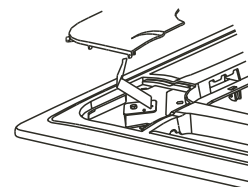

fig.4-14
- Wrench off the bolts, loosen the rope of the installation covers, and remove them. (Refer to Fig.4-14)
- 5) Regulate the panel in the direction of the arrow in Fig 4-14 slightly to fit the panel's center to the center of the ceiling's opening. Guarantee that the hooks of the four corners are fixed well.